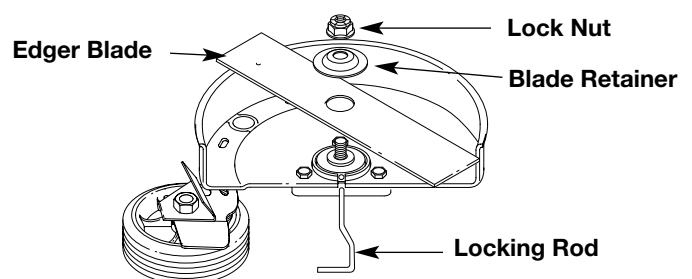
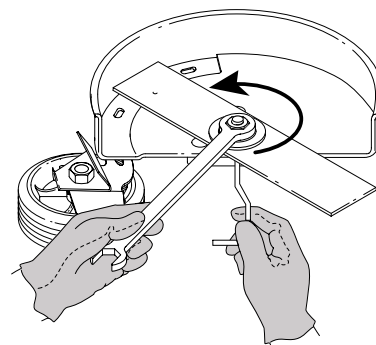

Fig. 31
Fig. 32
3. Install the new blade, blade retainer, and nut (Fig. 31). Insert the locking rod through the slot into the output shaft hole. Make sure that the blade stays flat and centered against the output shaft while tightening the lock nut **counterclockwise** (Fig. 32).
If you do not have a torque wrench, hold the locking rod in the slot. Rotate the nut **counterclockwise** with a 5/8 inch closed-ended or socket wrench, until the nut presses against the washer and the blade is snug. Make sure the blade assembly is installed correctly, then rotate the nut an additional **1/4-1/2 turn** (Fig. 32).